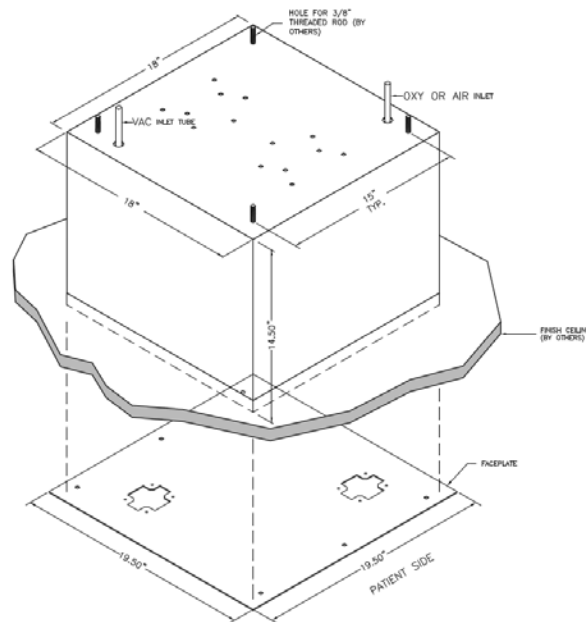

Figure 1
- a. Use (minimum) 3/8" threaded rods (not included) to structurally anchor the rough-in box. Anti-sway bracing is also required. See Figure 1.
The short inlet hose terminates with a DISS Female fitting safety-keyed to the appropriate outlet station in the rough-in box. The supply hose from the reel terminates in a color-coded, service identified, safety-keyed coupler. See Figure 1